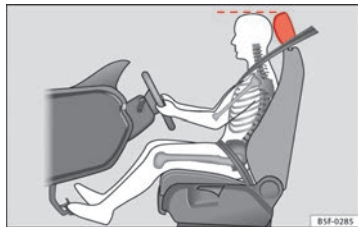

Fig. 2 Correct head-restraint position for driver.
- Adjust the head restraint so that its upper edge is at the same level as the top of your head, or as close as possible to the same level as the top of your head ⇒ Fig. 2.